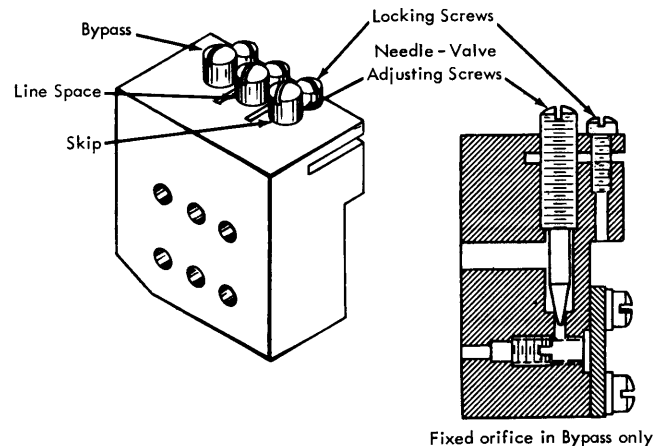

Figure 50. Needle Valves
4. Loosen the lock screw for the center needle valve (the center right screw, Figure 50).
- b. Back off on the center left screw (Figure 50) until you feel the detent nip the detent wheel. The impact will be transmitted through the screwdriver.
4. Loosen the lock screw for the skip needle valve (the front right screw, Figure 50).
- b. Back off on the front left screw (Figure 50) until you feel the detent nip the detent wheel. The impact will be transmitted through the screwdriver.
- (1) If no nipping is detected after turning out a maximum of five turns, stop the carriage motor so that the hydraulic pumps are not moving. Turn down on the front left screw until it is closed. Then back off five full turns on this screw, Tighten the lock screw (the front right screw).
- (2) If nipping is detected, adjust the needle valve to stop the detent from nipping.
5. Loosen the lock screw for the bypass needle valve (the rear right screw, Figure 50).